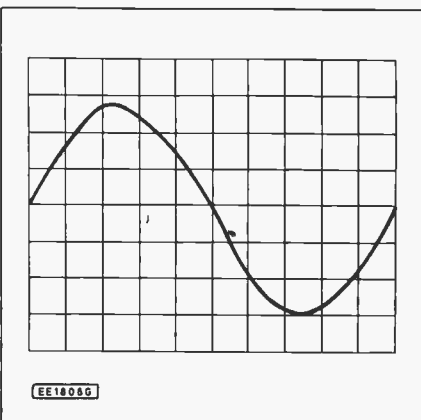

Fig. 5.11. Display for periodic time calculation.
10. State the periodic time of the oscilloscope output sine wave shown in Fig. 5.11. The oscilloscope is set to 50ms/cm.